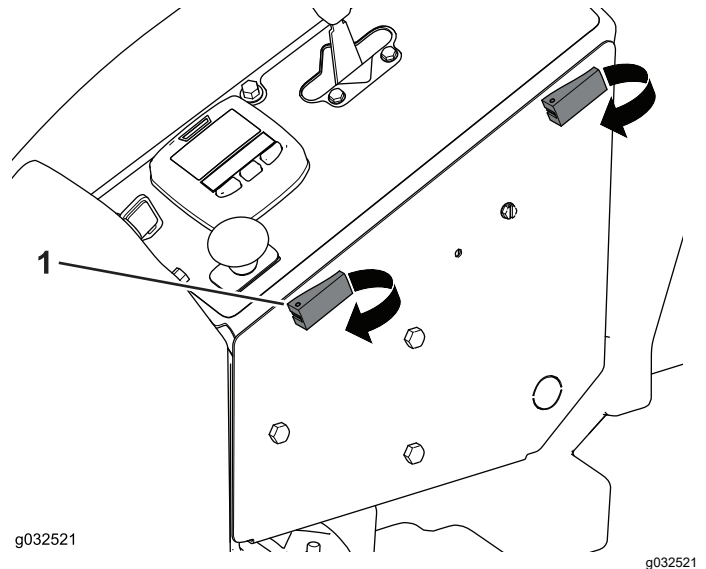

Figure 40
1. Toggle the swell latches and open the operator-controls compartment (Figure 40).